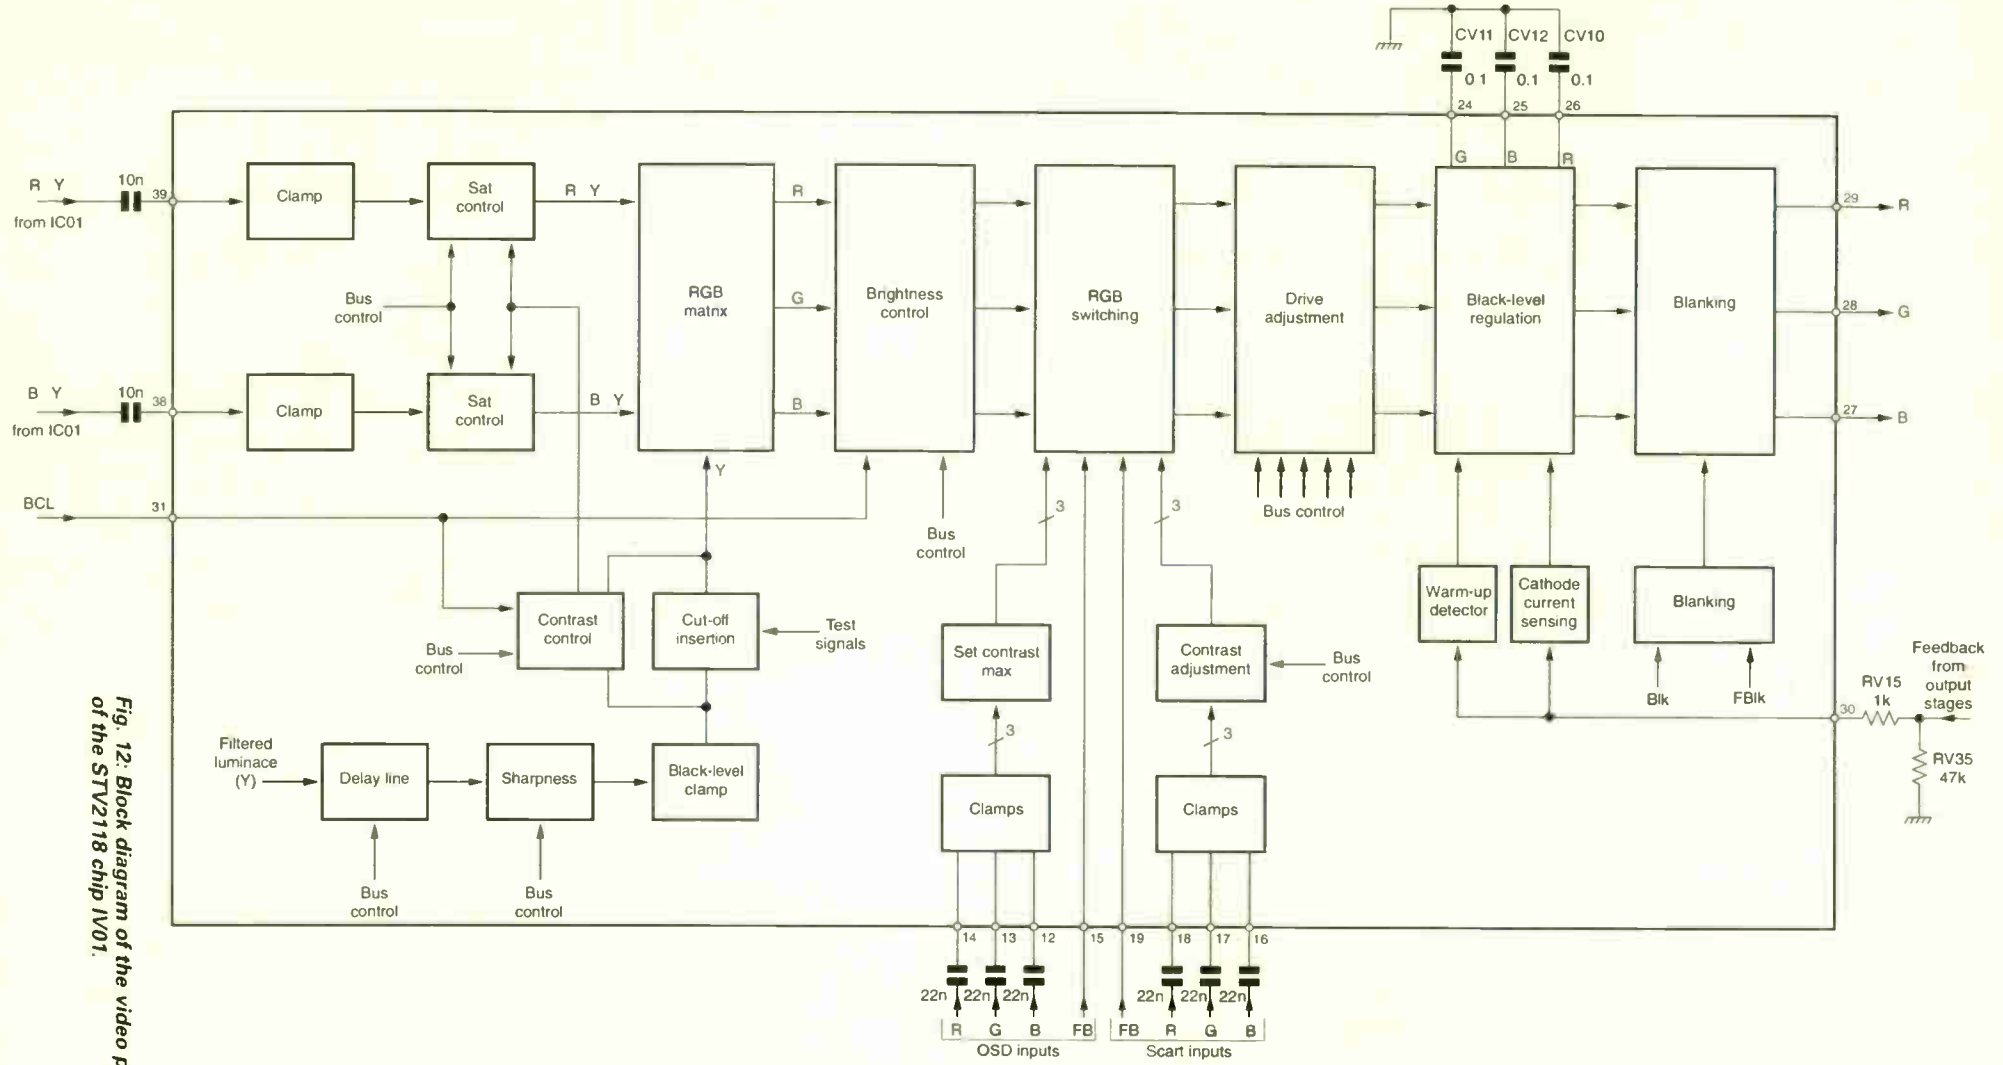

Fig. 12: Block diagram of the video processing sections of the STV2118 chip IV01.
Fig. 12 shows a block diagram of the video processing sections of IV01. The luminance signal (Y) is separated from the chroma signal by internal filtering. It's then passed to a delay line which has different delay times depending on mode. This is followed by peaking (sharpness), after which the signal goes via a black-level clamp to the control section. Sharpness is controlled by the I²C bus with a range of between +5 and +30 per cent. The colour-difference signals from IC01 are clamped, subjected to saturation control then fed to the RGB matrix, along with the Y signal. Contrast, brightness and saturation, also the RGB gains, are all adjusted via the I²C bus.